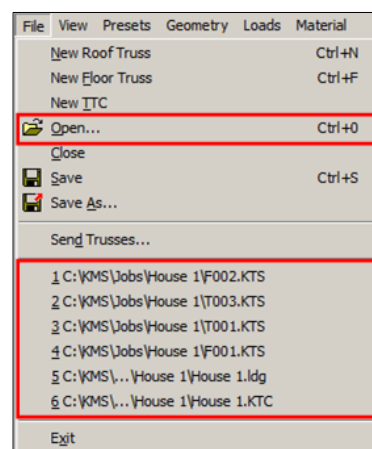

Figure 84: The *Open* command and recently opened files available on the *File* menu.
3. Click on a recently accessed file from the *File* menu, as pictured in Figure 84 at right.